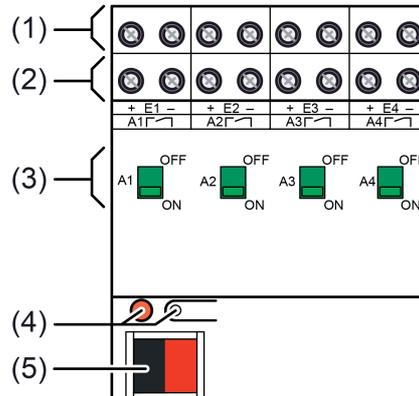

Figure 1: Device components
The switching position of the relays is indicated by slide switches (3) on the front panel of the device (figure 1). At the same time the slide switches can be used for manual operation of the relay outputs. Use a suitable tool for actuation (e.g. thin slotted screwdriver).